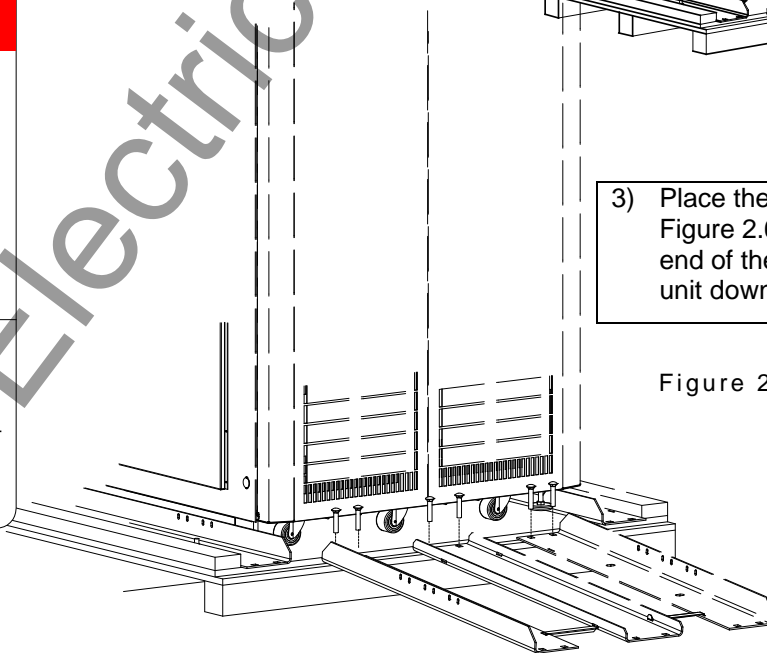

Figure 2.6
- 2) Unbolt the rails from both the unit and the shipping pallet. Place the rails on the front of the pallet as shown in Figure 2.5 and Figure 2.6. Use the four 1/2x3" bolts used to secure the rails to the shipping pallet to attach the rails as shown to the front of the pallet.
- 3) Place the tie brackets as shown in Figure 2.6 in the slots at the lower end of the ramps. SLOWLY roll the unit down the ramp.